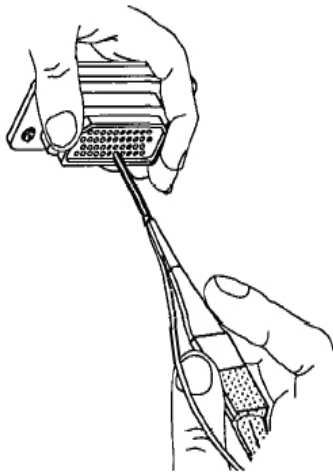

Figure 13. Removal Tool on Wire
c. Slide removal tool along wire at a right angle to connector insert face and align with contact cavity (Figure 13).